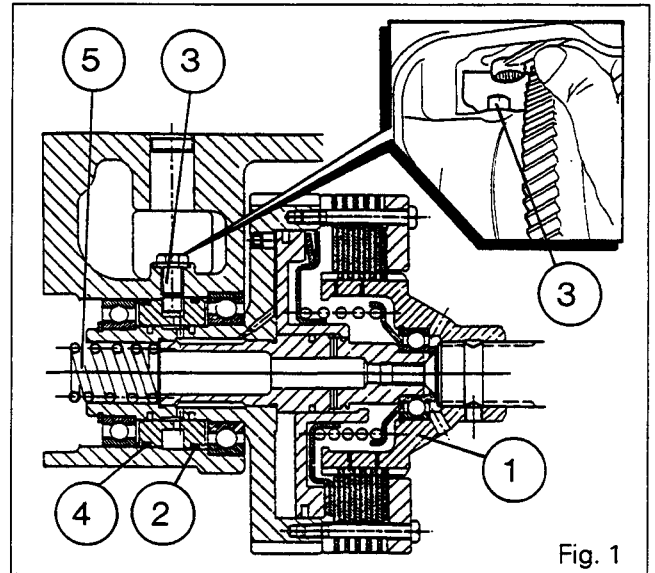
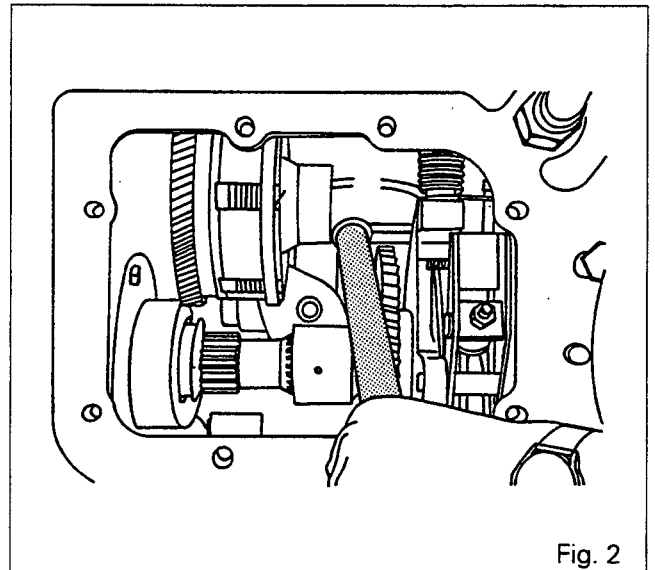

Fig. 1
Fig. 2
3. Remove the retaining screw (3) of the clutch (1). Remove the clutch and the spring (5) (Fig. 1).
5. Check that the O-rings (2) and (4) (Fig. 1) have not deteriorated.
6. Place the spring (5) (Fig. 1) in the hollow clutch shaft and refit the clutch, pushing it as far as possible with a lever (Fig. 2) so as to compress the spring in order to fit the screw (3) (Fig. 1).
7. Clean the screw and smear it with Loctite 221 and tighten it with a ring spanner (Fig. 1).
14. Remove the retaining screw (3) of the clutch (1). Remove the clutch and the spring (5) (Fig. 1).
16. Check that the O-rings (2) and (4) (Fig. 1) have not deteriorated.
17. Place the spring (5) (Fig. 1) in hollow clutch shaft and refit the clutch, pushing it as far as possible with a lever (Fig. 2) so as to compress the spring in order to fit the screw (3) (Fig. 1).
18. Clean the screw and smear it with Loctite 221 and tighten it with a ring spanner (Fig. 1).